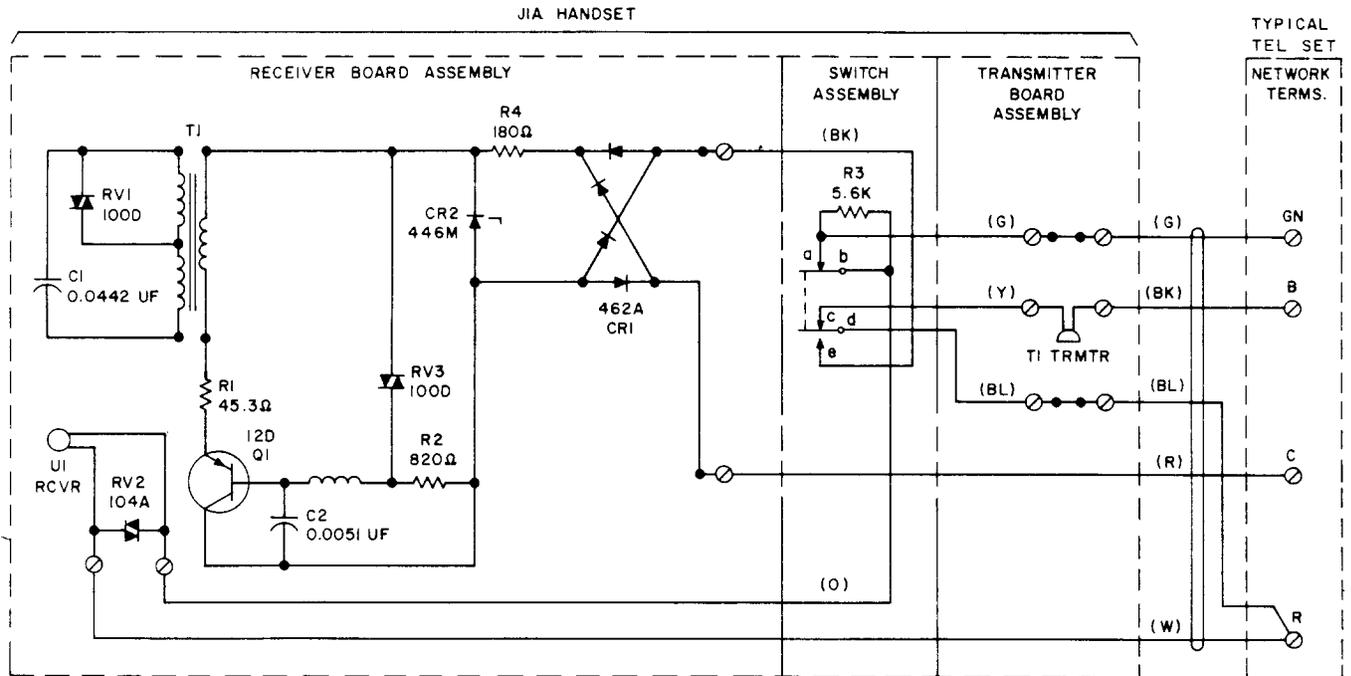

Fig. 3—J1A Handset, Schematic Diagram
- (a) For assistance in overall circuit trouble shooting, refer to schematic (Fig. 3).
Note: When disconnecting cord tips, do not remove leads terminating on transmitter and receiver boards which are connected to switch assembly (Fig. 3).